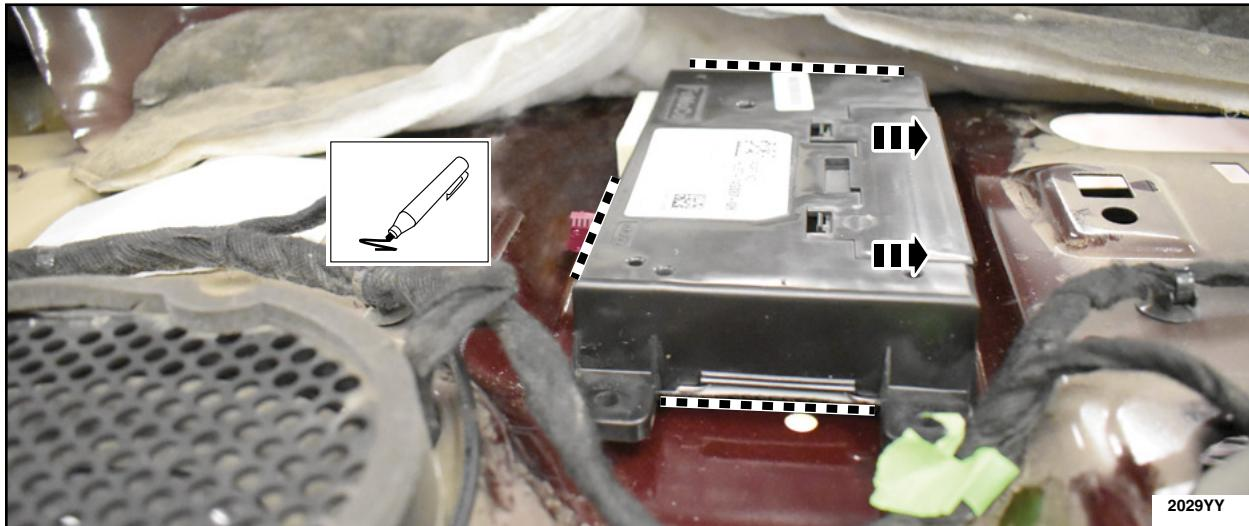

FIGURE 3
4. Temporarily place the 4G TCU in the position shown to the vehicle left with non-connector side against sheet metal. Using a marker, mark the edges of the TCU onto the sheet metal of the vehicle. See Figure 3. Remove the TCU from the vehicle and place it on a bench metal side up.